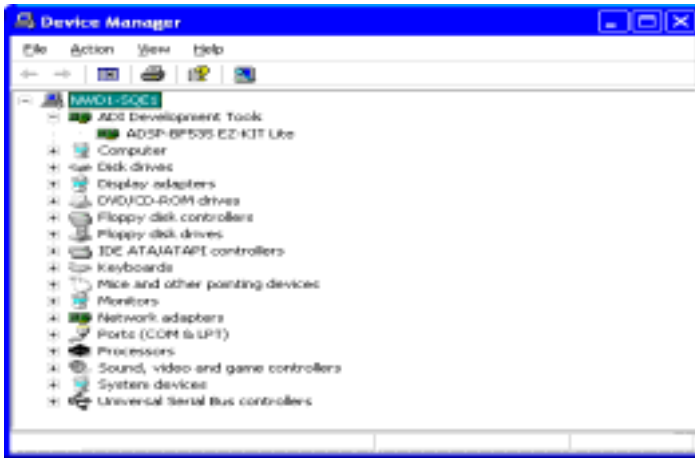

Figure 1-12. Device Manager Window
3. Verify that the USB driver software is installed properly. Open Windows **Device Manager** and verify that **ADSP-BF535 EZ-KIT Lite** shows under **ADI Development Tools** with no exclamation point, as in Figure 1-12.